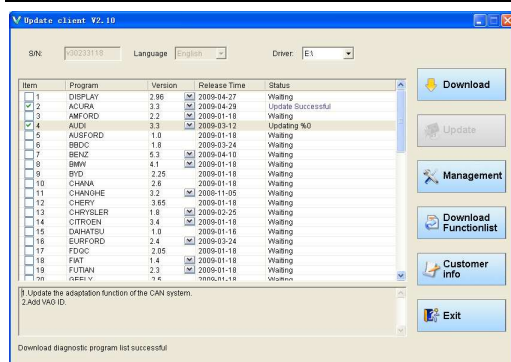

Fig.2-9 Software installation screen
- (1) Take out the SD card from V30 main unit;
- (2) Put the SD card into SD Card reader;
- (3) Connect the Card-Reader to PC USB port;
- (4) Select the SD card driver on the top-right side of software installation screen as shown in Fig.2-9;
- (5) Click on the button **[Update]**, the selected programs already downloaded to your PC hard drive will be installed on SD card automatically.